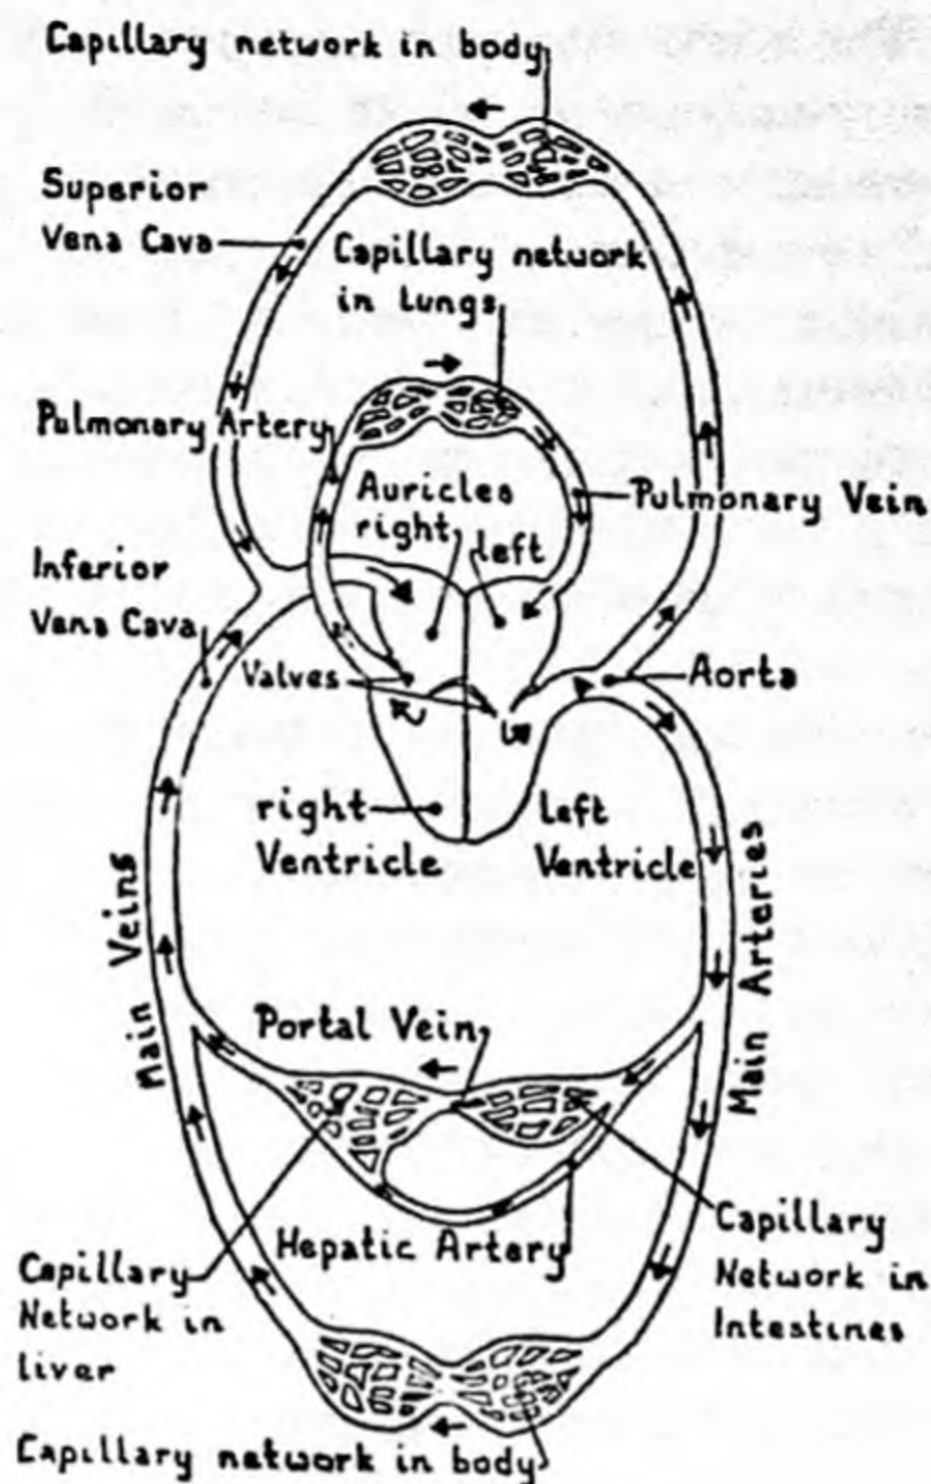

Fig. 23. THE CIRCULATORY SYSTEM
*The Heart*, which supplies the motive power for the circulation of the blood, is a hollow, muscular organ situated in the middle of the chest (or thorax), with the apex, or point, turned to the left. It is covered with a membrane, the pericardium, which is a kind of bag. This also helps to keep the heart in position among the other chest organs. The muscular walls of the heart are thinner at the wide top portion and thicker at the apex, especially on the left side. (See Fig. 23.)
Leaving these arterioles, the blood runs through a fine mesh-work of tubes, the capillaries, the walls of which are one cell only in thickness, and into and from which soluble substances, oxygen and white corpuscles, can readily pass. The capillaries connect the arteries which take the blood from the heart with the veins that take it back. (See Fig. 23.)